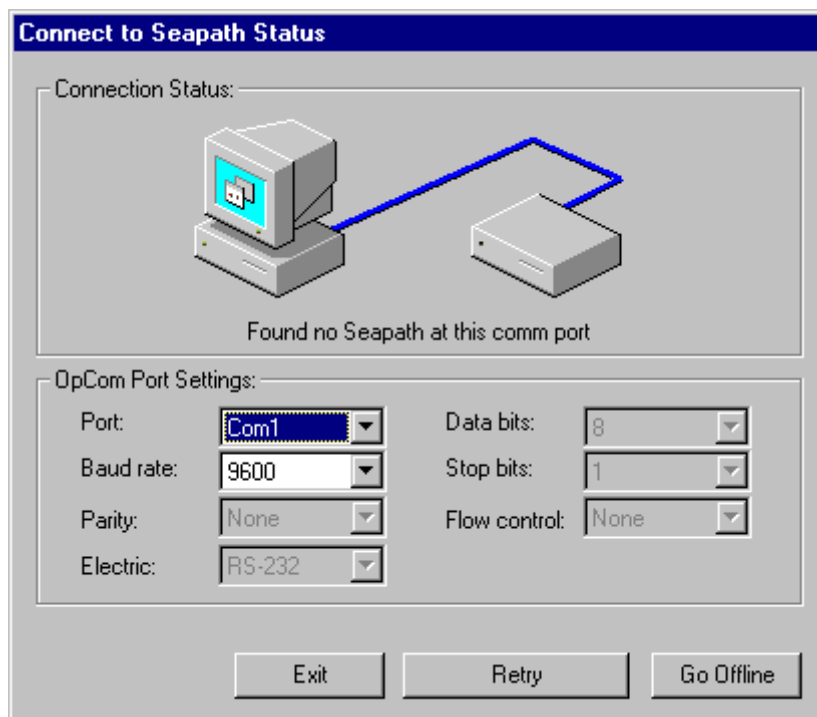

Figure 22 Connect Status
1. **Connect.** System tries to establish communication with Seapath. If connection fails, Figure 22 is shown.